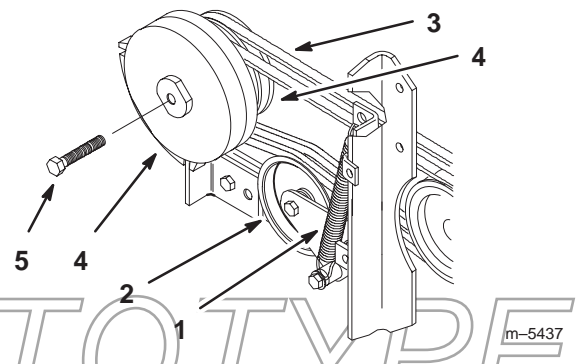

Figure 2
3. Remove PTO belts from clutch pulley (Fig. 2).
1. Remove tensioner spring on idler (Fig. 2).
2. Slide clutch onto the drive shaft (Fig. 2).
4. Install bolt into clutch (Fig. 2). Torque to 50ft.-lbs.